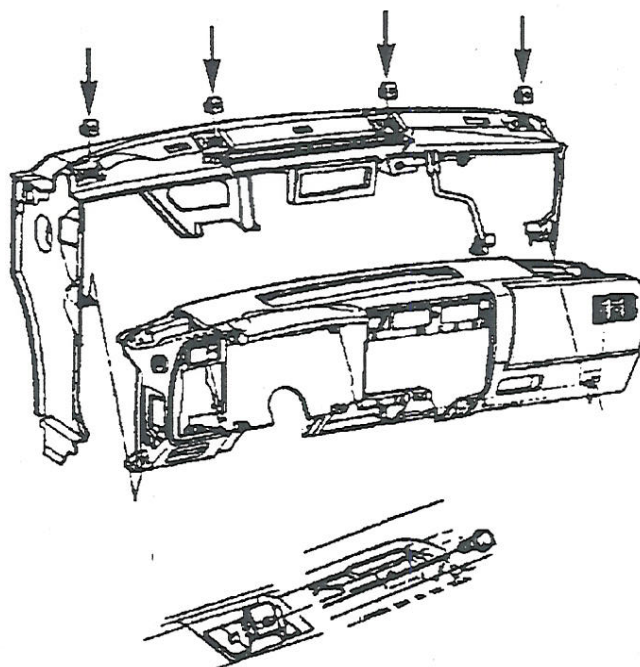

Fig. 27 Instrument panel upper support removal. 1997 S & T Series & Bravada
14. Remove instrument panel upper support bolts as illustrated in Fig. 27.